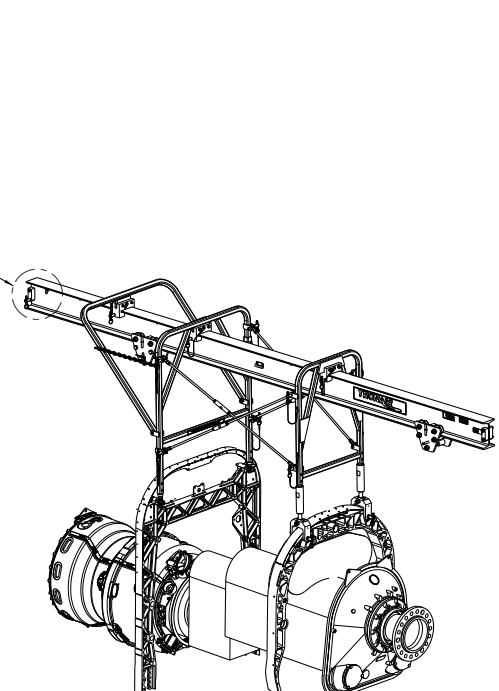

**FIGURE 3**
- Remove the ball lock pins from the mounting blocks located at the top of the forward and aft supports. **Reference Figure 3**.
- Slide the I-beam assembly through the aft support block into the forward support block. Position the I-beam assembly mounting with the front support aligning to the forward most engine mounting hole. The aft support is mounted to the second engine mounting hole. **Reference Figure 3**.